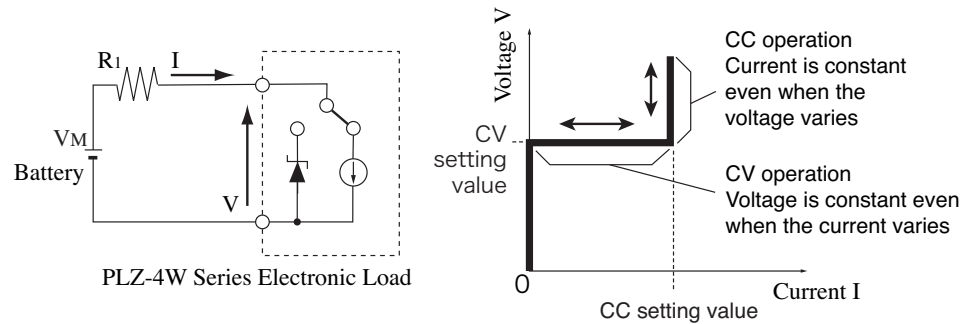

Fig. A-12 Equivalent circuit of the CC+CV mode and operation
When the PLZ-4W is used in CC+CV mode, the PLZ-4W operates as a constant current load and a constant voltage load (shunt regulator) as shown in Fig. A-12. When operating as a constant current load, the PLZ-4W sinks the specified current (I) independent of the output voltage of the constant-voltage power supply (V_M). When operating as a constant voltage load and V_M is greater than V , the input voltage V is kept constant even when the input current I varies. Current does not flow when V_M is less than or equal to V .
The switching between the modes is automatic. In the fig. A-12, R_1 is the internal resistance of the constant-voltage power supply. In constant-voltage (CV) mode, the PLZ-4W may operate unstably if R_1 is low.
We will consider the case when checking the discharge characteristics of a battery of Fig. A-12.